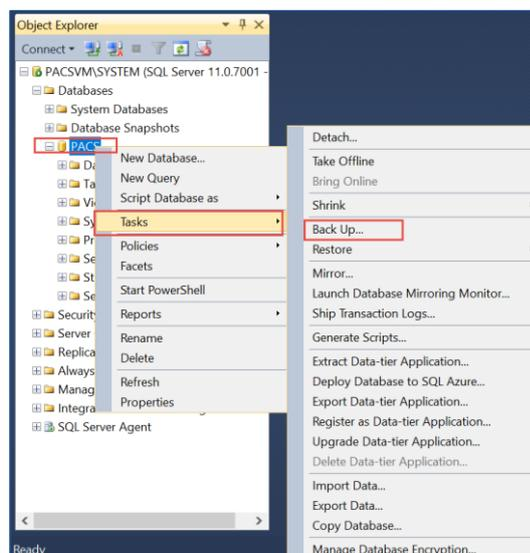

Figure 6. PACS Back Up from context menu in SQL Management Studio
2. Right click on PACS and from the *context menu* navigate to **Tasks** → **Back Up** as per Figure 6.